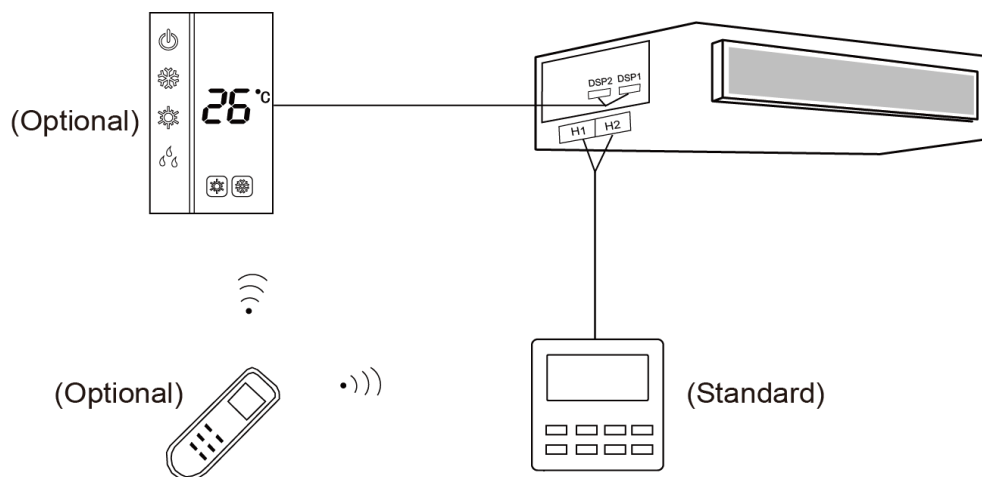

Fig 5.4.3
3) Wired controller and receiving light board can be installed at the same time. When operating through a remote controller, both wired controller and the receiving light board can receive the signals, as shown in Fig 5.4.3.